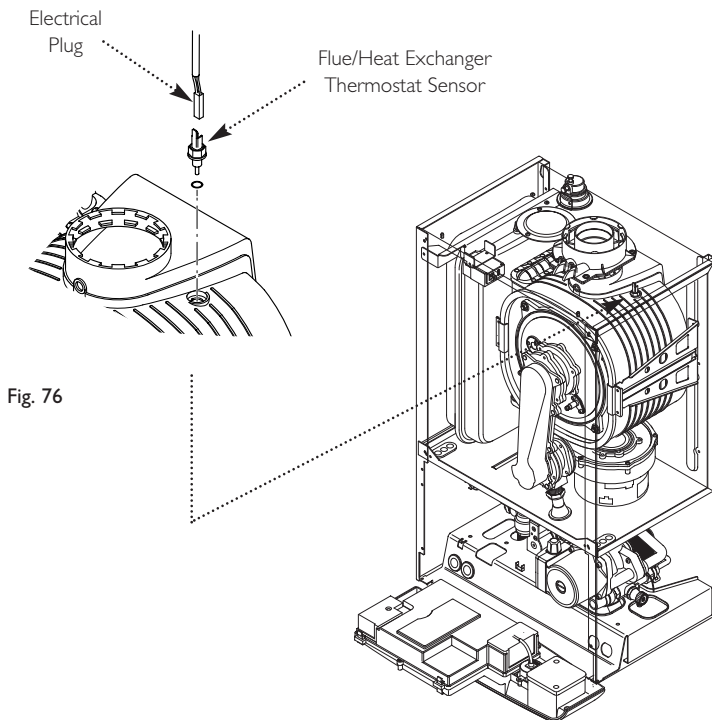

Fig. 76
14.8 Flue/Heat Exchanger Thermostat Sensor (Fig. 76)